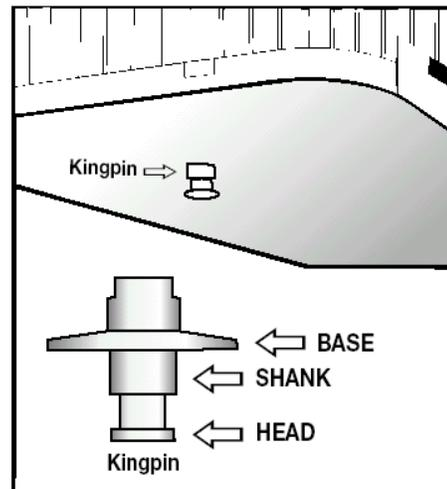

Figure 6.8
- o Locking jaws around the shank, not the head of kingpin. See Figure 6.8.